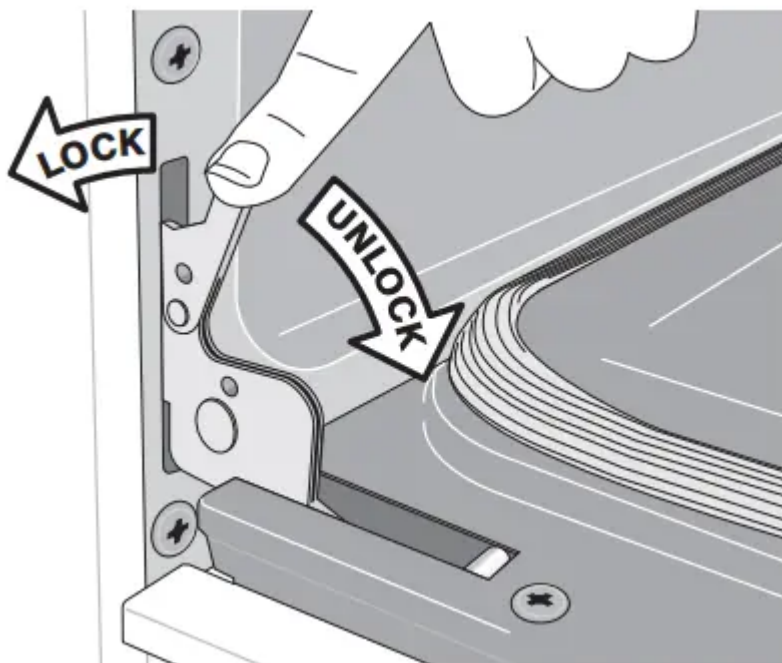

Figure 27: Door hinge Locks
2. Pull the door hinge locks on both left and right door hinges down from the oven frame completely towards the oven door (Figure 27). A tool such as a small flat-blade screwdriver may be required.
4. Push the door hinge locks up towards and into the oven frame on both left and right oven door hinges to the locked position (See Figure 27).